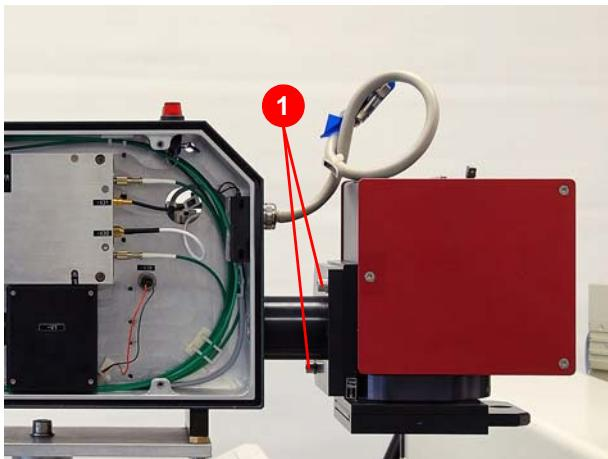

Figure 7.2 Dismantling the galvo head
2. Loosen the fastening screws (1) (Figure 7.2).